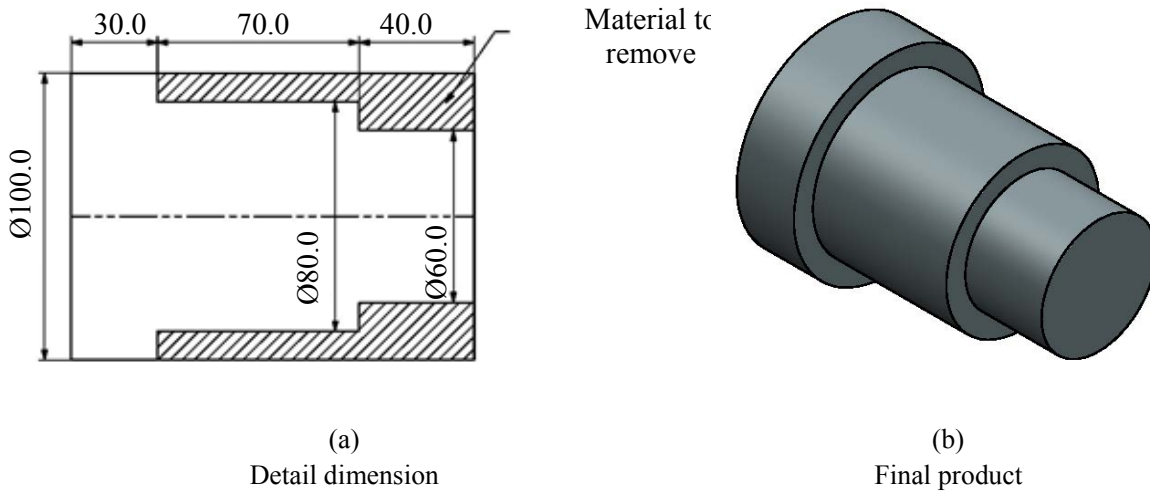

Figure Q1A: Detail dimension and Final Product
A. Component shown in Figure Q1A will be machined using a lathe machine with two (2) steps. The first step of these components will be machined along 110.0 mm (70.0 mm + 40.0 mm) to reduce the diameter of Ø100.0 mm to Ø80.0 mm. The second (2) step is to reduce the size of the diameter of Ø80.0 mm to Ø60.0 mm with a length of 40.0 mm. Calculate cutting time for the entire machining process using cutting conditions included: